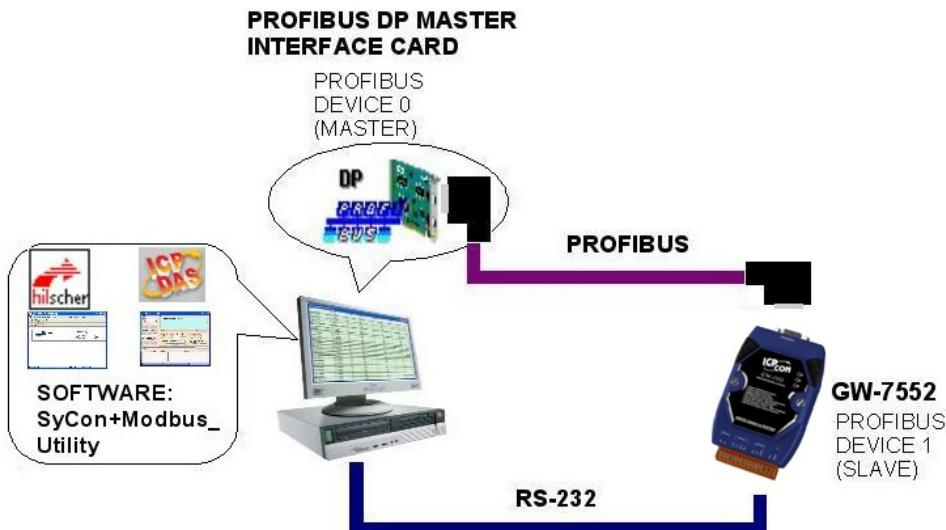

Figure 37 Wiring diagram between PC and GW-7552
Step 2: Connect the RS232 port of the GW-7552 module to a COM port of the PC and the Profibus port to a Profibus master (*Figure 37*).